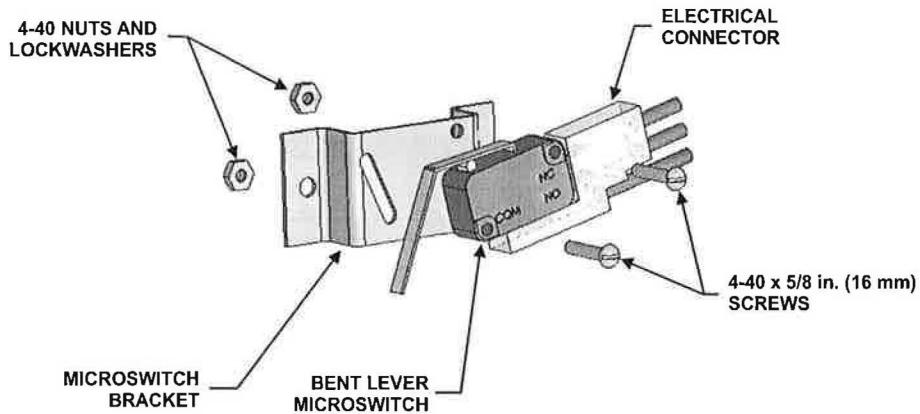

Figure 4-46. Single SPDT Microswitch and Mounting Bracket
3. Mount the microswitch to the mounting bracket using (Figure 4-46):